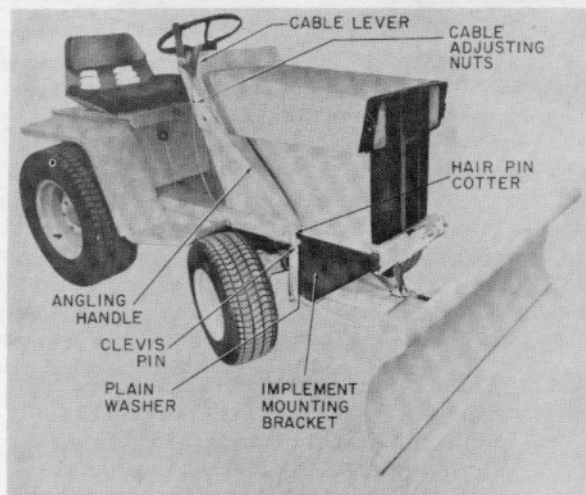

Figure 1
2. Attach the angling handle to the right mounting bracket clevis pin. (The right side as determined by sitting on the tractor seat). Secure with a 5/8-inch plain washer and the existing hair pin cotter. See Figure 1.